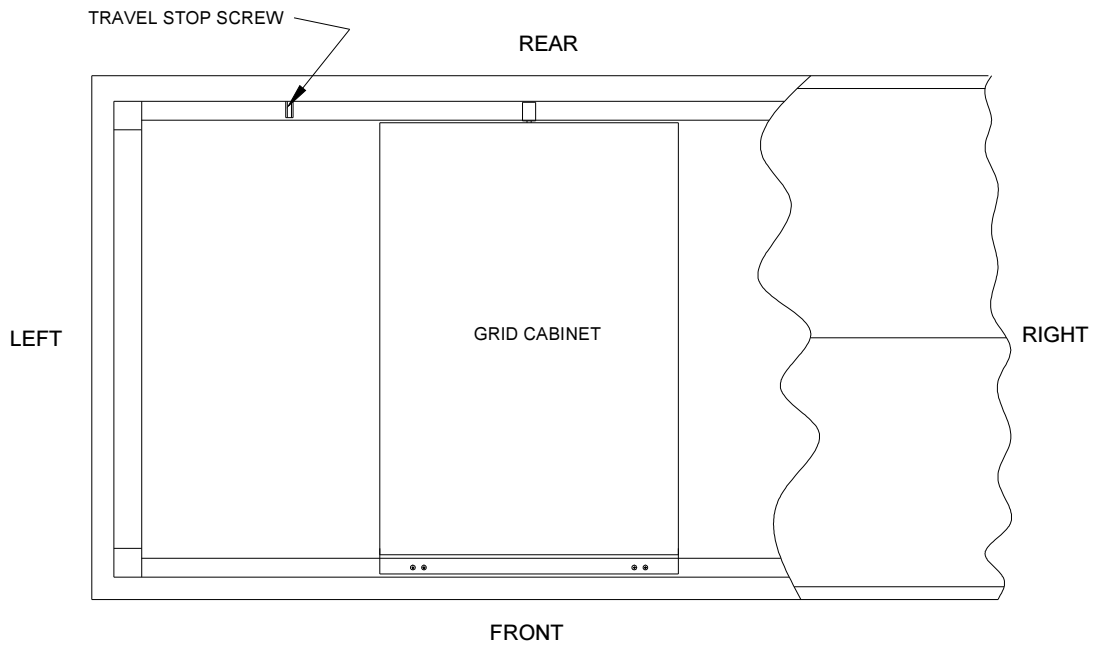

FIG. 2
- B) Position yourself at the left back side of the table (see figure 2).
- D) Put both hands underneath the center part of G.C. (see figure 2).